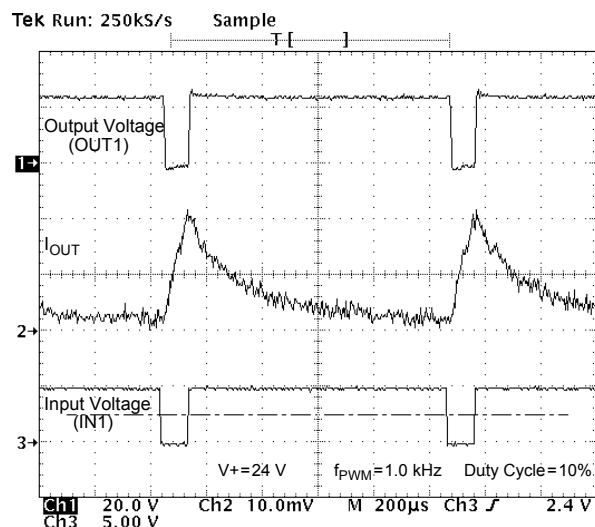

Figure 10. Output Voltage and Current vs. Input Voltage at V+ = 24 V, PWM Frequency of 1.0 kHz, and Duty Cycle of 10%
20. The outputs can be PWM controlled from an external source. This is typically done by holding one input high while applying a PWM pulse train to the other input. The maximum PWM frequency obtainable is a compromise between switching losses and switching frequency. Refer to Typical Switching Waveforms, Figures 10 through 17, pp. 10–11.